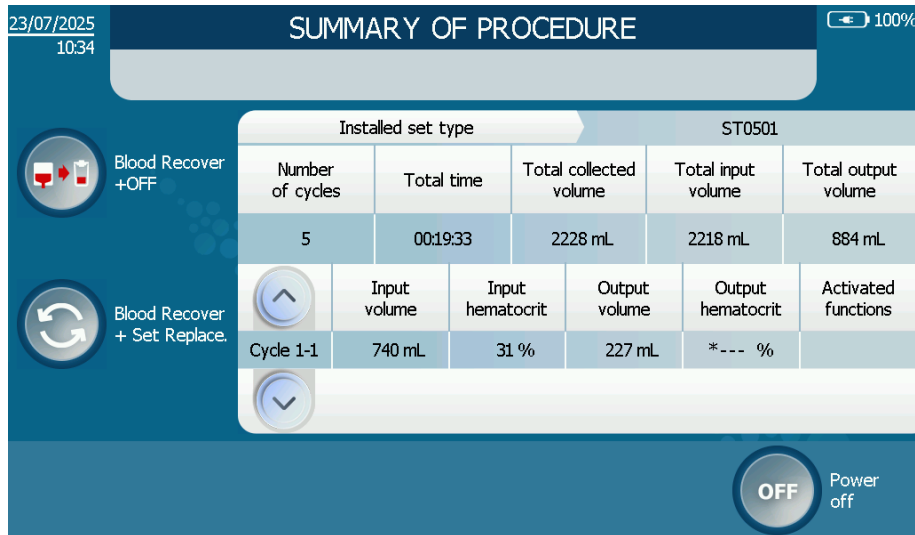

Figure 121: End of procedure screen
- If validated, a new screen with a summary of the procedure appears (see Figure 121).